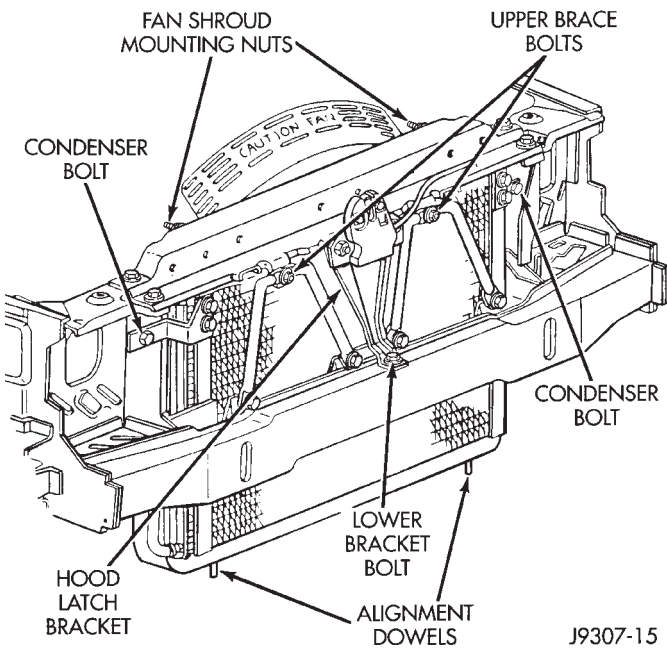

Fig. 31 Fan Shroud Nuts
(5) Remove two fan shroud-to-radiator nuts (Fig. 31). Do not attempt to remove fan shroud at this time.
(11) Position fan shroud and fan blade/viscous fan drive assembly to vehicle as a complete unit.
(12) Be sure the upper and lower portions of the fan shroud are firmly connected. All air must flow through the radiator.
(13) Install two fan shroud-to-radiator nuts (Fig. 31).
(14) Be sure of at least 25 mm (1.0 inches) between tips of fan blades and fan shroud.
(15) Install fan blade/viscous fan drive assembly to water pump shaft.
(16) Fill cooling system. Refer to Refilling the Cooling System in this group.
(17) Connect negative battery cable.
(18) Start and warm the engine. Check for leaks.